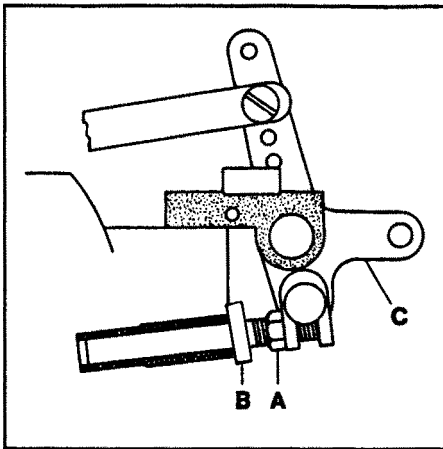
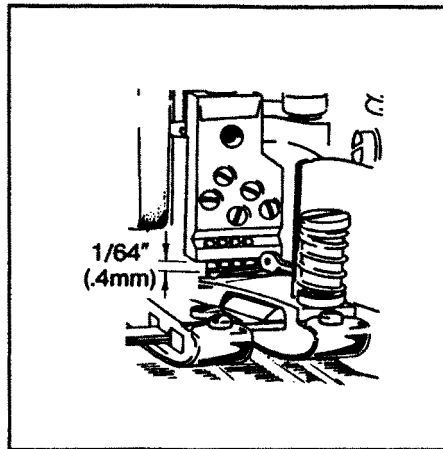

FIG. 24
FIG. 25
The presser foot lifter stop plunger must be set so the cover thread hook will not hit the bottom of the needle head as the presser foot is being lifted. Position the needle bar to its lowest point of travel. Loosen nut (A, Fig. 24) and turn plunger (B) clockwise until it strikes the crankshaft counterweight. While applying pressure to lifter (C) to lift the foot, back out of the plunger until the distance between the hook and the underside of the needle head is $1/64"$ (0.4mm) (see Fig. 25). Tighten nut (A, Fig. 24).